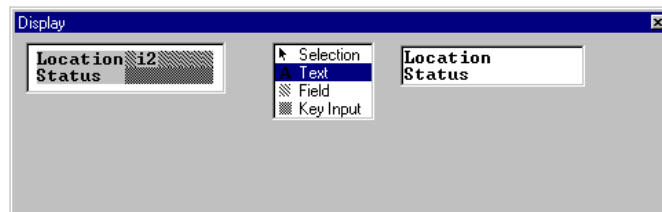

Figure 3-72 “Location” Handler Display - Location Corrected in Display
61. Press <Enter>; the display now shows **Location** on the first line (Figure 3-72).